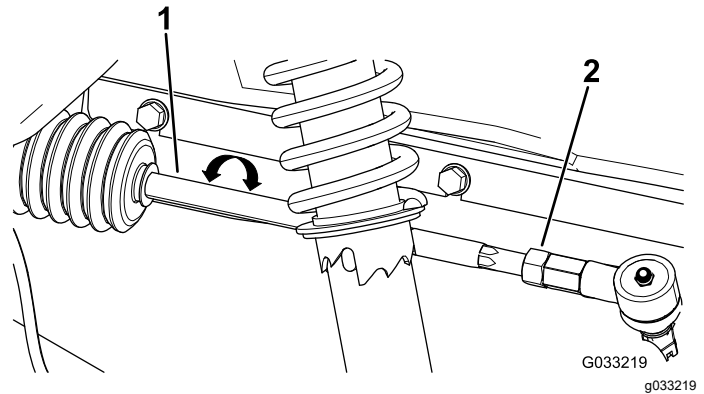

Figure 42
3. If the measurement does not fall within 0 to 6 mm (0 to 1/4 inch), loosen the jam nuts at the outer end of the tie rods (Figure 42).